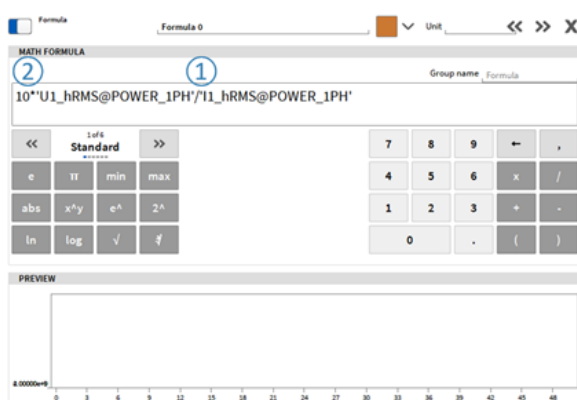

Fig. 7.73: Basic math operations for arrays
- Basic math operations for arrays with same dimensions supported (see ① in Fig. 7.73): + - \* /
- Operations (+ - \* /) with arrays and constants (see ② in Fig. 7.73)